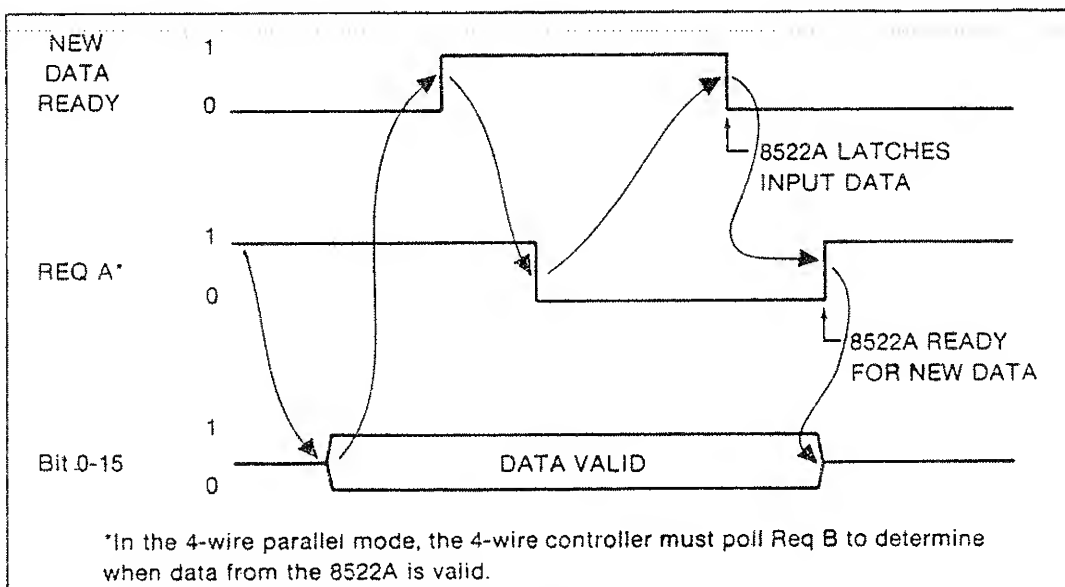

Figure 8-7. Four-wire Data to 8522A
1. Transfer of commands to the 8522A. See Figure 8-7.